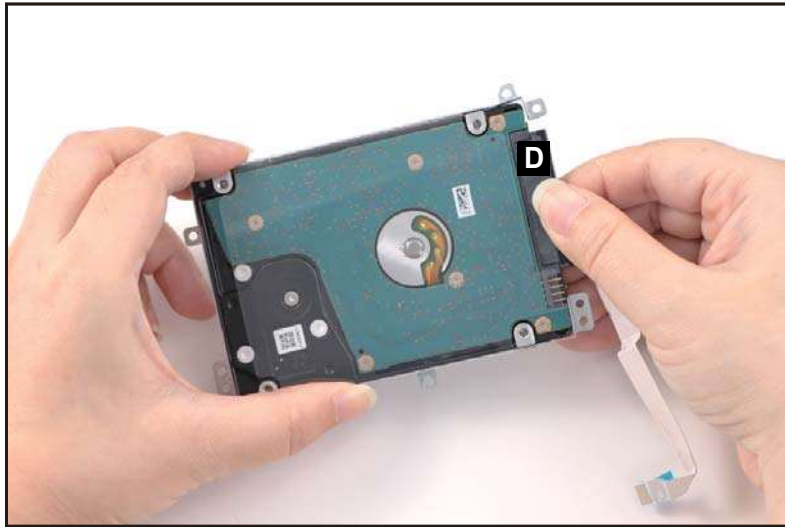

Figure 3-100. Replacing the HDD Module
3. Connect the HDD FFC to the HDD module connector (D) (Figure 3-100).